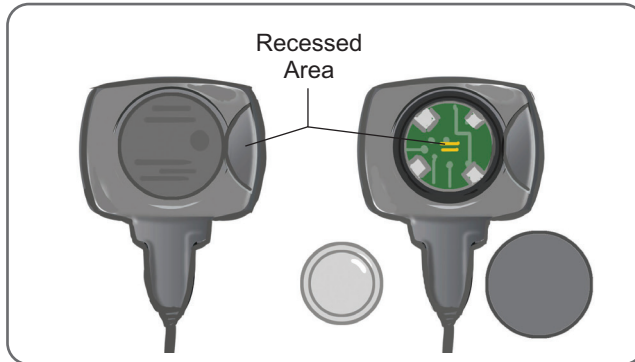

Figure 8-3: Replacing the Foot Sensor Battery
1. Use the recessed area on the back of the Foot Sensor to pop out the battery lid cover. See Figure 8-3.